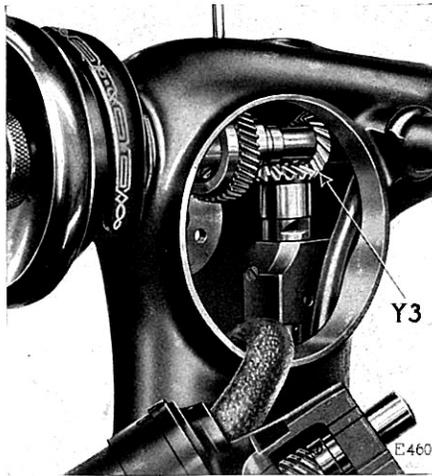
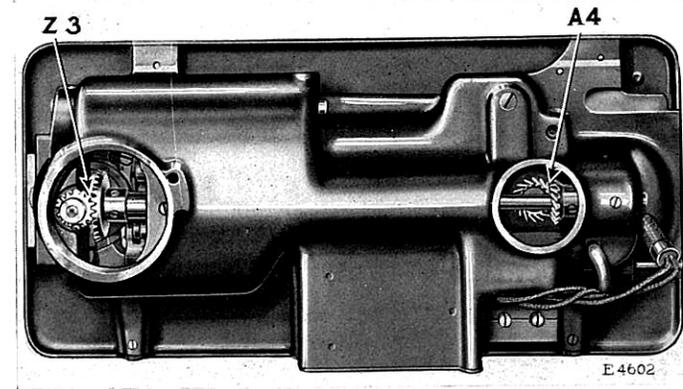

FIG. 28. BACK VIEW, SHOWING BEVEL GEARS IN ARM OF MACHINE
FIG. 29. BASE VIEW, SHOWING BEVEL GEARS IN BED OF MACHINE
- (g) Apply Singer Lubricant to the teeth of the two bevel gears (Y3, Fig. 28) next to the spiral gears. The greasing
1. There are three sets of bevel gears in the machine, as shown at (Y3, Fig. 28) and (Z3 and A4, Fig. 29). These bevel gears
2. The method of greasing the upper set of bevel gears (Y3, Fig. 28), i. e., those which are located in close proximity to the motor itself, has been explained under the heading "To Lubricate the Motor."
3. The two lower sets of bevel gears (Z3 and A4, Fig. 29) are exposed by removing the two round sheet metal covers located in the bottom of the machine, as shown in Fig. 7, page 7. This can be done with a small screw driver.